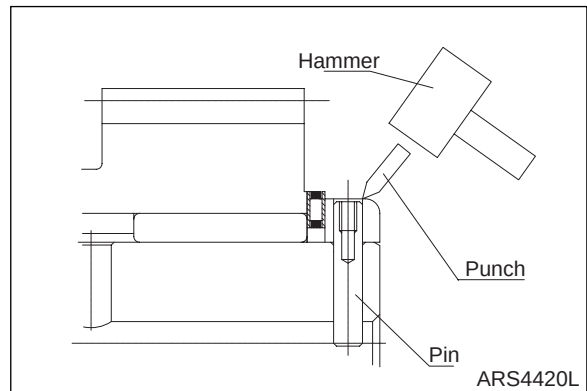

Figure 78
NOTE: Refer to Figure 78.
5. Check pin (12) hole of shaft (11) and pin (12) hole of carrier (9) by the naked eye. At this time, if holes are crisscrossed, align them by using jig (6). Drive pin (12) to 1 mm below the surface of carrier (9) by using hammer and jig (9). Close end surface of pin (12) hole of carrier (9) with two points of 180° space like Figure 78 by using punch and prevent pin (12) from coming out.
6. Install the remaining two cluster gears (6) by repeating the upper clauses from one to four.
8. When finishing installation completely, draw lines on the upper surface of carrier (9) like below figure to mate cluster gear phase easily. At this time, three lines should all be parallel.